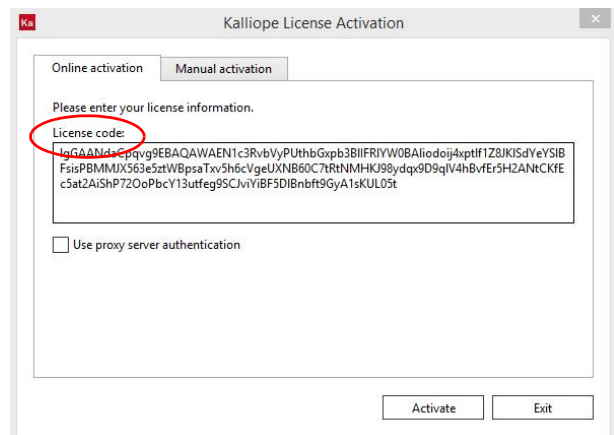

Fig. 6-3: Entering the software license code
When Kalliope is first started, you will be asked to enter a license code, as shown in Fig. 6-3. There are two ways to activate the software; either online or manually. For both, a valid license code is required.
1. In the "Online activation" tab, enter the valid license code provided with the delivery, as shown in Fig. 6-3.